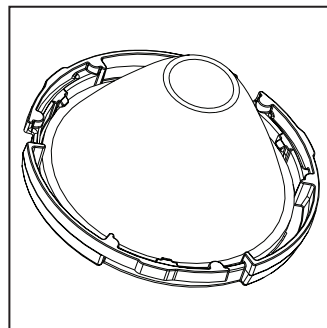

Figure 16
**Step 3.** Remove optic from black optic holder. Snap the new optic into the black optic holder (Fig. 16).